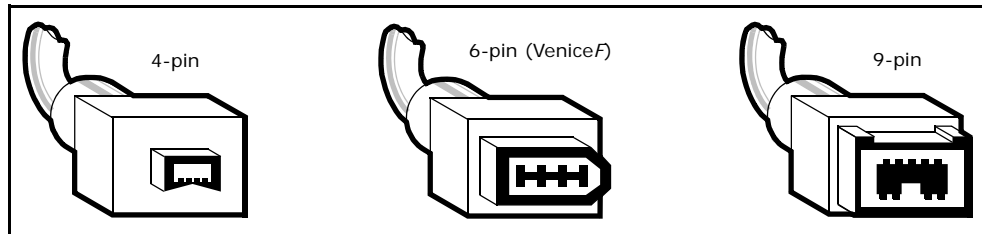

Figure 3: Some typical FireWire connectors
- 2 Connect the VeniceF to the Mac using the appropriate FireWire cable (see Figure 3 “Some typical FireWire connectors” on page 20), while observing the following precautions